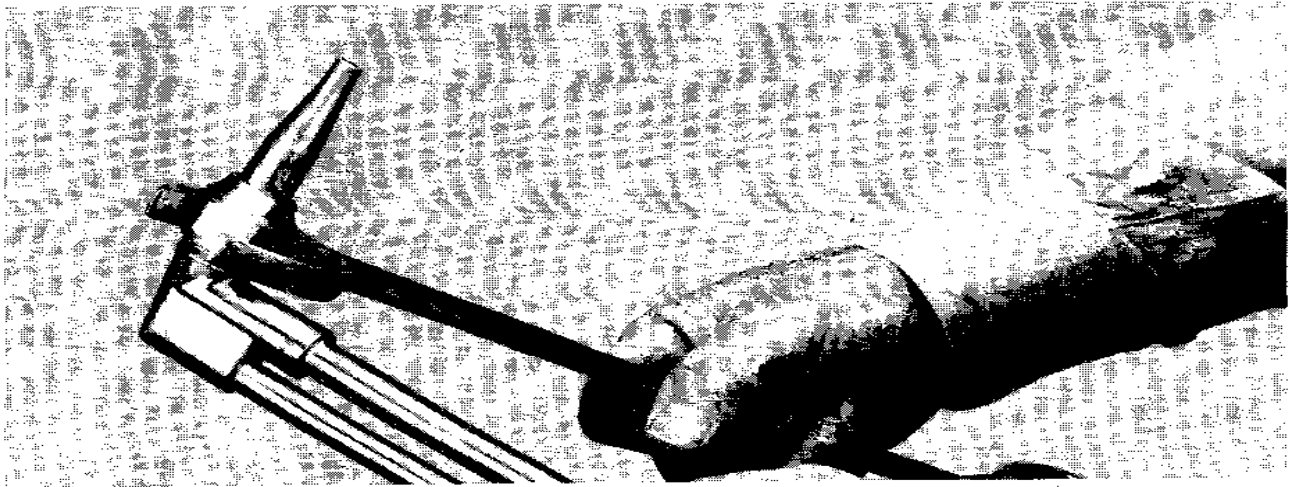

Figure 25, Tightening the Tip Nut
4. Insert the tip in the cutting attachment head. Tighten the tip nut securely with a wrench (15 to 20 lbs. torque) (see Figure 25).